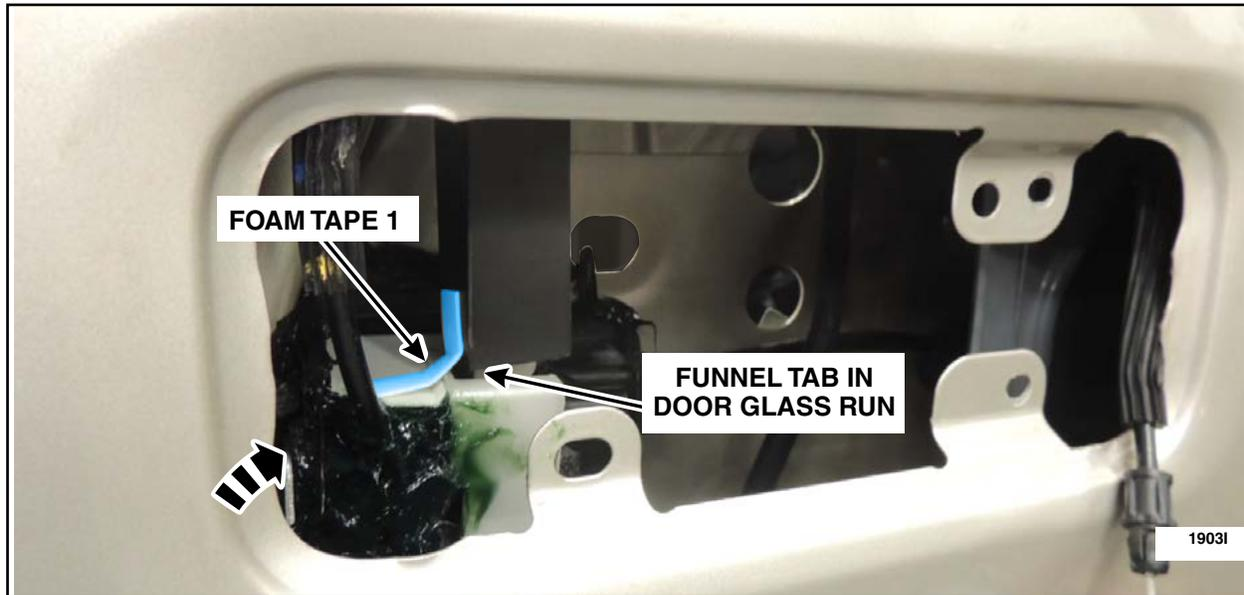

FIGURE 86
11. Apply supplied Foam Tape 1 in the location shown to hold the funnel in place. See Figure 86.